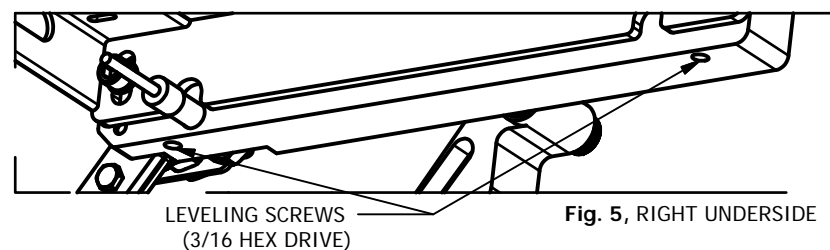

Fig. 5, RIGHT UNDERSIDE
-Using the 4 leveling screws align countertop, front to back and up and down, with the fixed countertop. (Fig. 5)